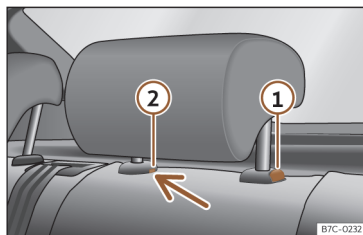

Fig. 98 Rear headrest: removal.
- Press button >>> **Fig. 98 ①**, while simultaneously pressing on the safety hole ② with a flat screwdriver a maximum of 5 mm wide, and remove the headrest.